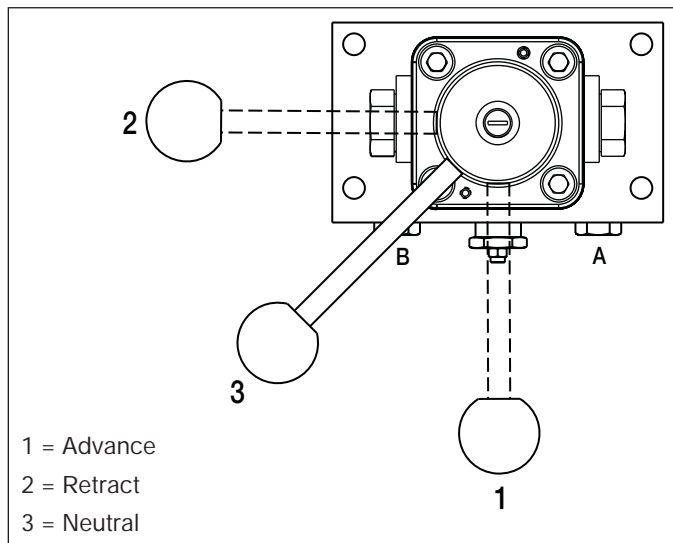

Figure 10, Valve Handle Positions
4. Rotate the control valve handle to the neutral/hold ("3") position (see figure 10 for handle positions).
Set the retract-side pressure limiting valve as described in the following procedure. Refer to figures 10 and 11.
4. Be sure that the control valve handle is in the neutral/hold ("3") position (see figure 10 for valve positions).